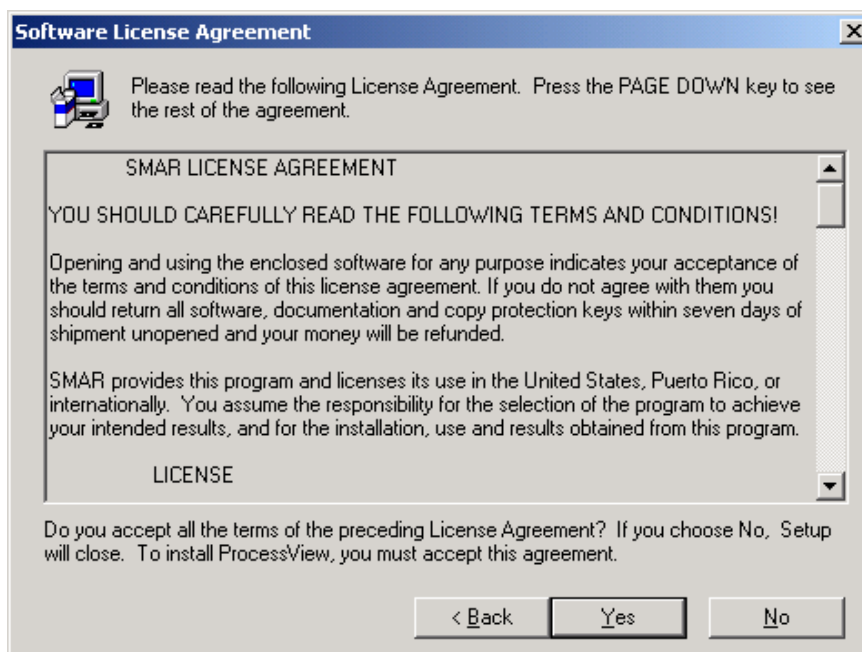

Figure 2.2. Software License Agreement
- The **Software License Agreement** dialog box appears, as shown in **Figure 2.2**. Read the License Agreement. Click **Yes** if you accept the terms of the agreement.